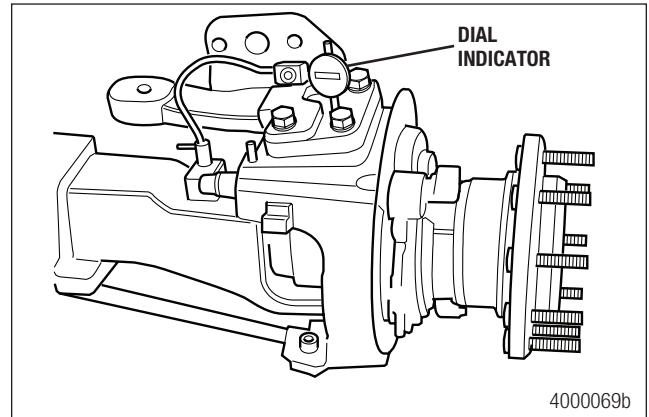

Figure 11.7
- d. Place a jack and a wood block, with a hole that allows clearance for the lower grease fitting, under the lower king pin cap area. Figure 11.7.
4. The reading must be 0.005-0.015-inch (0.127-0.381 mm). Figure 11.7. Add or remove shims from between the upper knuckle cap/steering arm and the housing to obtain the correct end play.